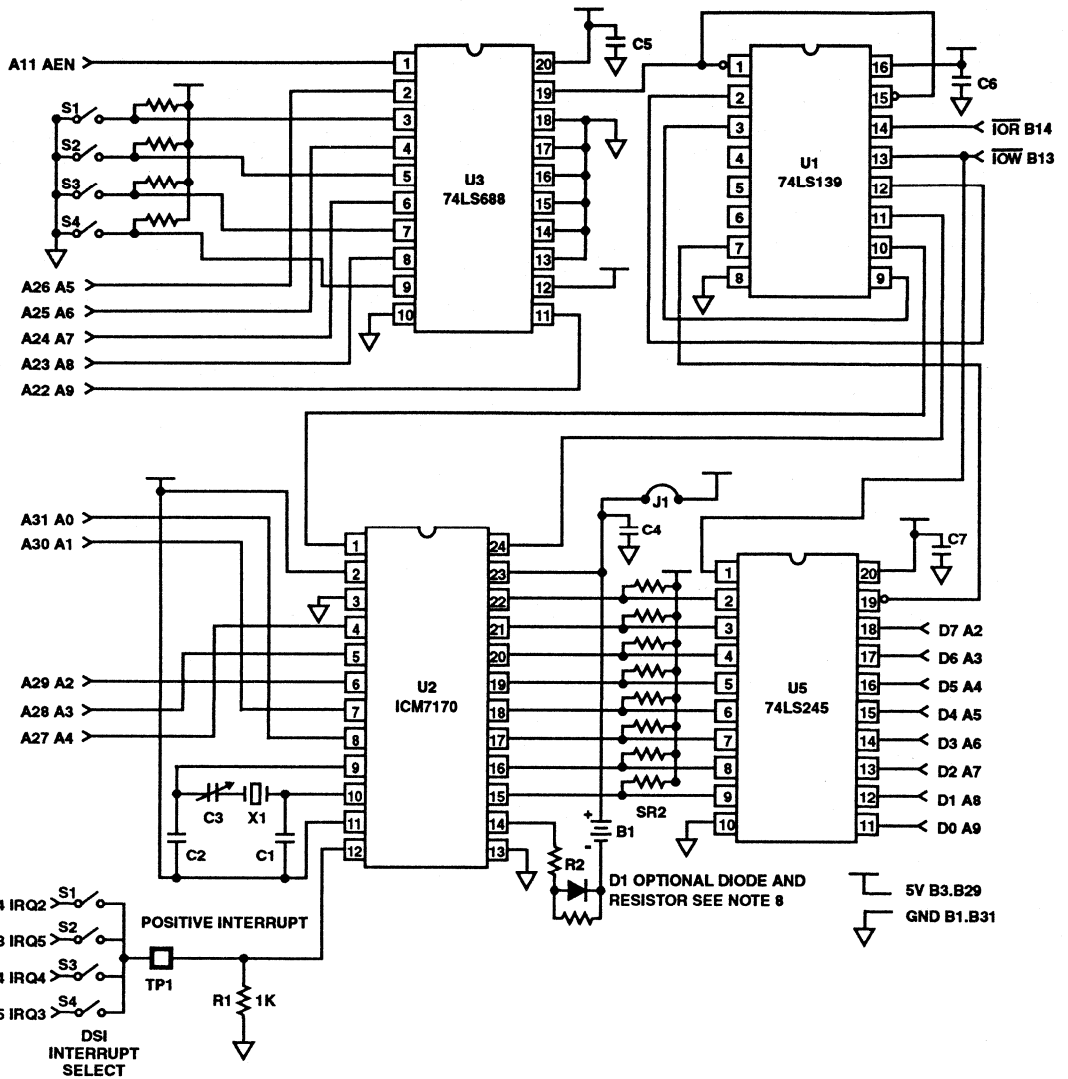

FIGURE 8. IBM PC INTERFACE FOR ICM7170
Figure 8 shows the schematic of a board that has been designed to plug into an IBM PC/XT (Note 1.) or compatible computer. In this example \overline{CS} is permanently tied low and access to the chip is controlled by the \overline{RD} and \overline{WR} pins. These signals are generated by U1, which gates the IBMs \overline{IOR} and \overline{IOW} with a device select signal from U3, which is functioning as an I/O block address decoder. DS1 selects the interrupt priority.
8. **V_{BACKUP} DIODE** - Lithium batteries may explode if charged or if discharged at too high a rate. These conditions could occur if the battery was installed backwards or in the case of a gross component failure. A 1N914-type diode placed in series with the battery as shown in Figure 8 will prevent this from occurring. A resistor of $2M\Omega$ or so should parallel the diode to keep the V_{BACKUP} terminal from drifting toward the V_{SS} terminal and shutting off ICM7170 I/O during normal operation.